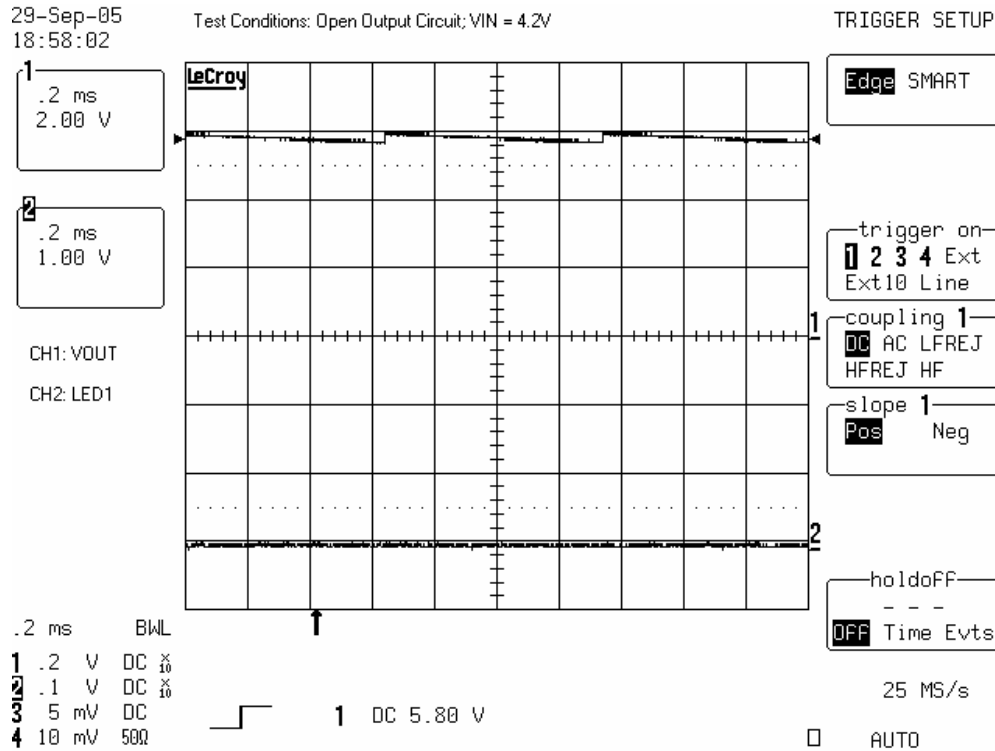

Figure 3. The Output Voltage Waveform for Open Circuit Configuration, VIN = 4.2V.
- Observe the CAT3614 output using a scope probe connected on VOUT (T5) test point (GND = T6). In this configuration with output open circuit the CAT3614 operates in 1.5x mode:  $V_{OUT} = 1.5 \times V_{IN}$ . For VIN higher than 4.2V approximately, the output voltage is limited below  $V_{OUT\ max} = 6V$ . Figure 3 shows the output voltage, VOUT for VIN = 4.2V, open circuit configuration.